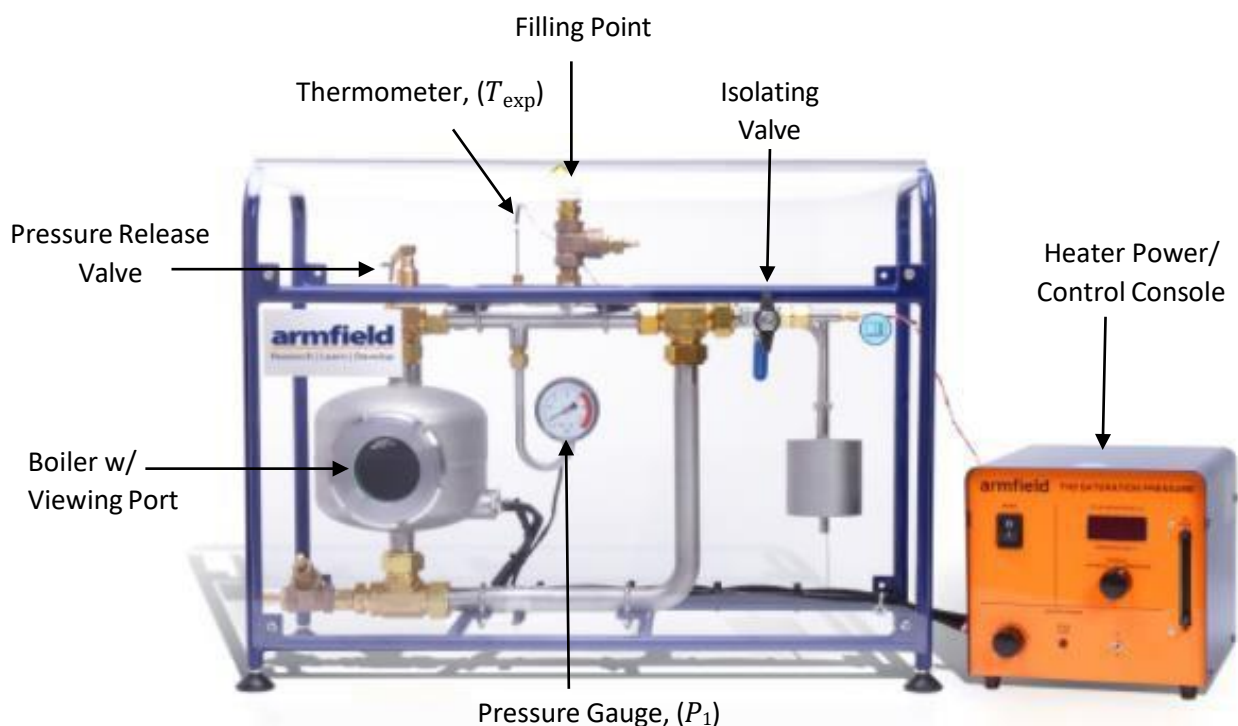
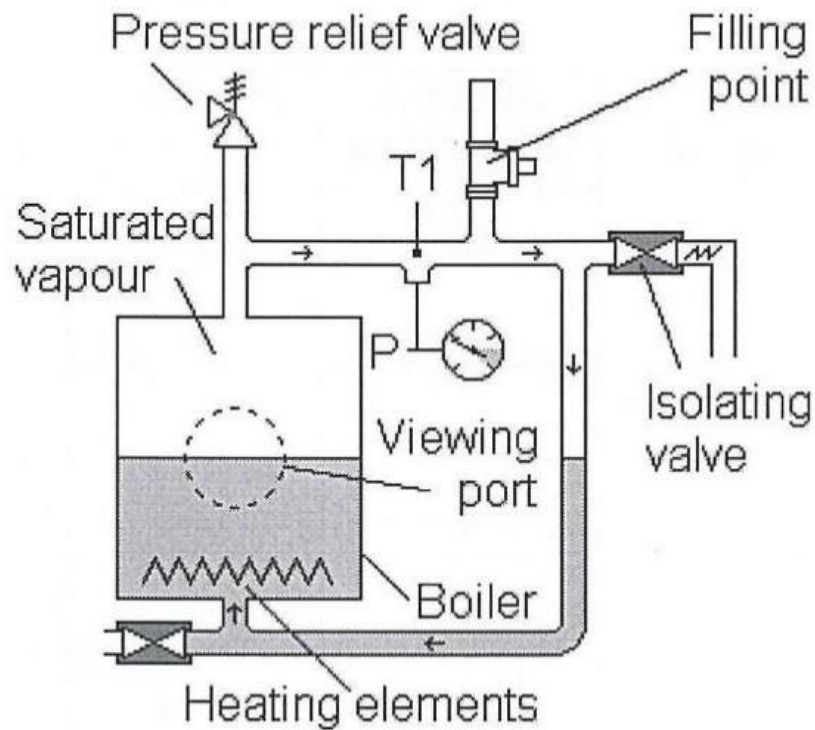

Figure 1: Armfield saturation pressure apparatus
Figure 2: Labelled apparatus schematic diagram
Figure 1 shows the Armfield saturation pressure apparatus. The silver-coloured boiler can be seen in Figure 1, along with the orange power/control console which is used to adjust the amount of heat input. More details such as the heating element, valves, and sensor positions are shown in Figure 2.
The state of the water is checked through the viewing port in the boiler. The isolating valve is closed once the water is boiling and all air has escaped from the filling point, making it a closed system of constant volume with only a saturated water mixture of water inside. The heat input is increased as the water is kept boiling, and the experimental temperature, T_{exp} , and gauge pressure, P_1 , are read from the thermometer (T1) and pressure gauge (P) indicated in Figures 1 and 2.